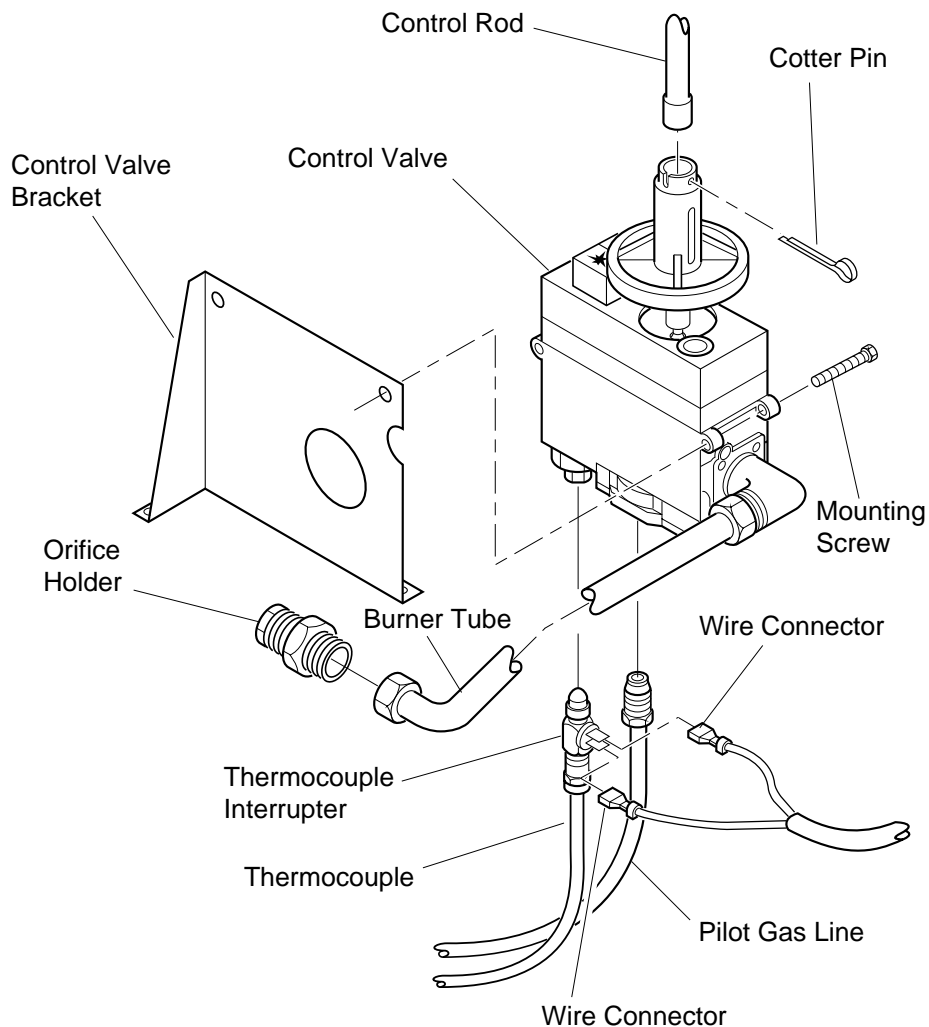

Figure 18 - Removing Control Valve and Burner Tube
3. Disconnect burner tube from orifice holder (see Figure 18).
4. Remove pilot gas line from control valve (see Figure 18).
5. Disconnect wire connectors from thermocouple interrupter (see Figure 18).
7. Remove cotter pin from control valve. This releases the control rod from valve (see Figure 18).
8. Remove the two mounting screws from control valve mounting bracket (see Figure 18).